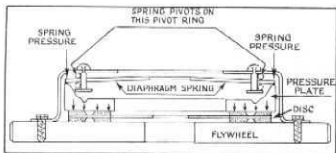

Fig. 132—Engaged Position of Diaphragm Spring
The clutch is always engaged unless purposely disengaged by the driver by depressing the foot pedal. In the engaged position, the diaphragm spring fingers are flat and the entire rim of the spring exerts pressure against the pressure plate (fig. 132).
2. The clutch diaphragm spring and two pivot rings are riveted to the clutch cover (fig. 132).